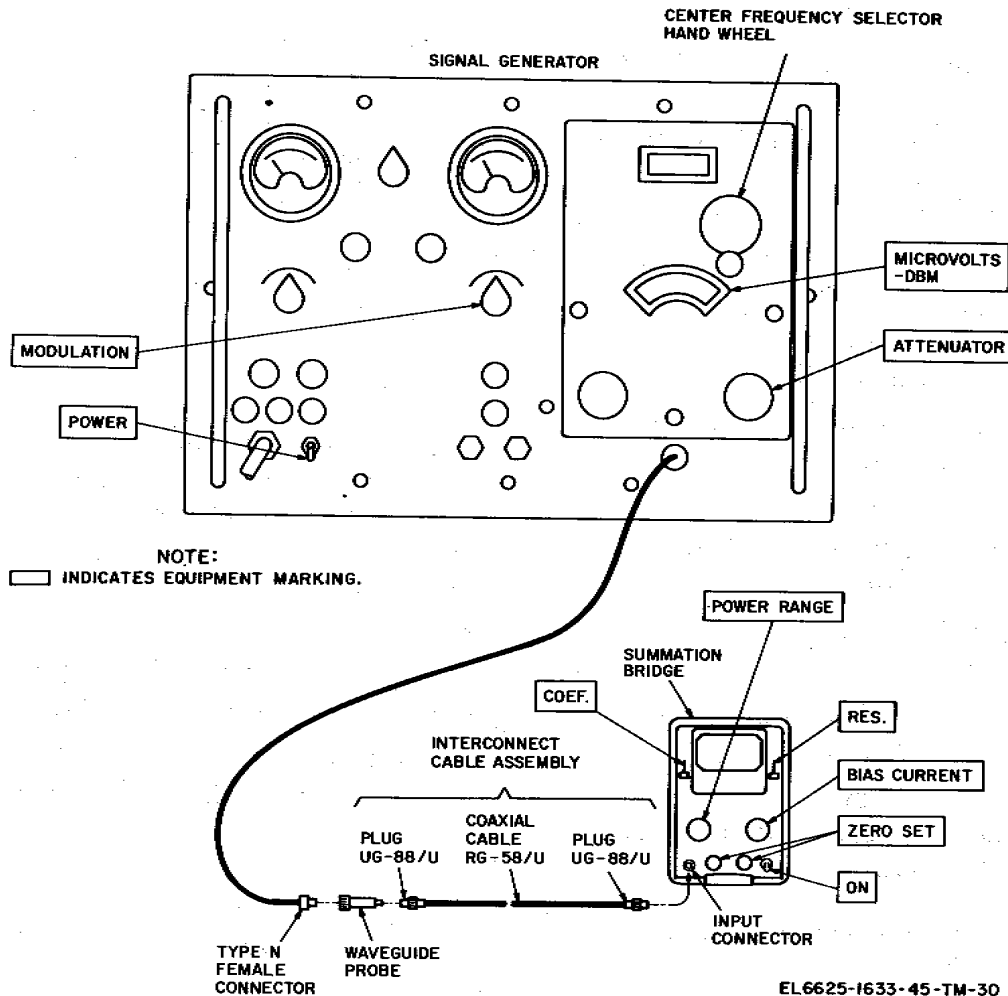

Figure 5-2. Rf output power, test setup diagram.
- a. Connect the equipment as shown in figure 5-2 but do not connect waveguide probe MX2144/U to the signal generator.